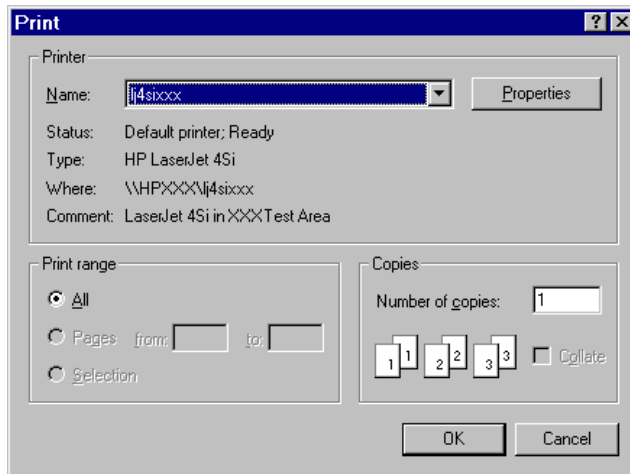

Figure 1-30. Printing the Screen
9. Continuing with the same example, to print the screen, select **File** ⇒ **Print Screen**. On Windows, the dialog box in Figure 1-30 appears.